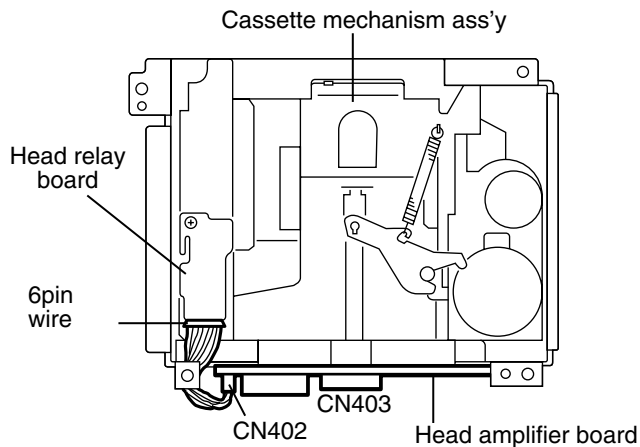

Fig.1
(See Fig.1 and 2)**
■ Removing the cassette mechanism assembly (See Fig.1 to 3)
1. Disconnect the 6pin wire from connector CN402 and the card wire from CN403 on the head amplifier board (Refer to Fig.1 and 2).